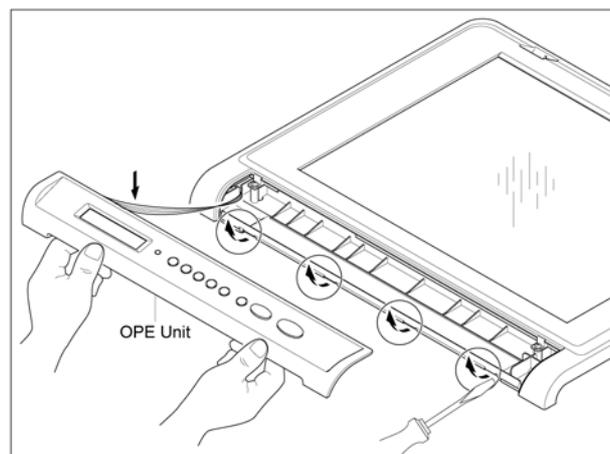

Figure 4
6. Use a flat-bladed screwdriver to unhook the OPE panel clips in the direction of the arrows, Figure 4.